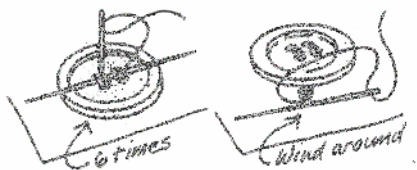

Figure 3
Step 5 - Continue stitching in the same place for approximately 6 stitches. (Figure 3)
Step 6 - If a toothpick, shank gauge, or pin was used to form the thread shank, remove it, and pull the button to the top of the thread. Wind thread around the stitches under the button. (Figure 3) Secure thread at the bottom of the thread stem.